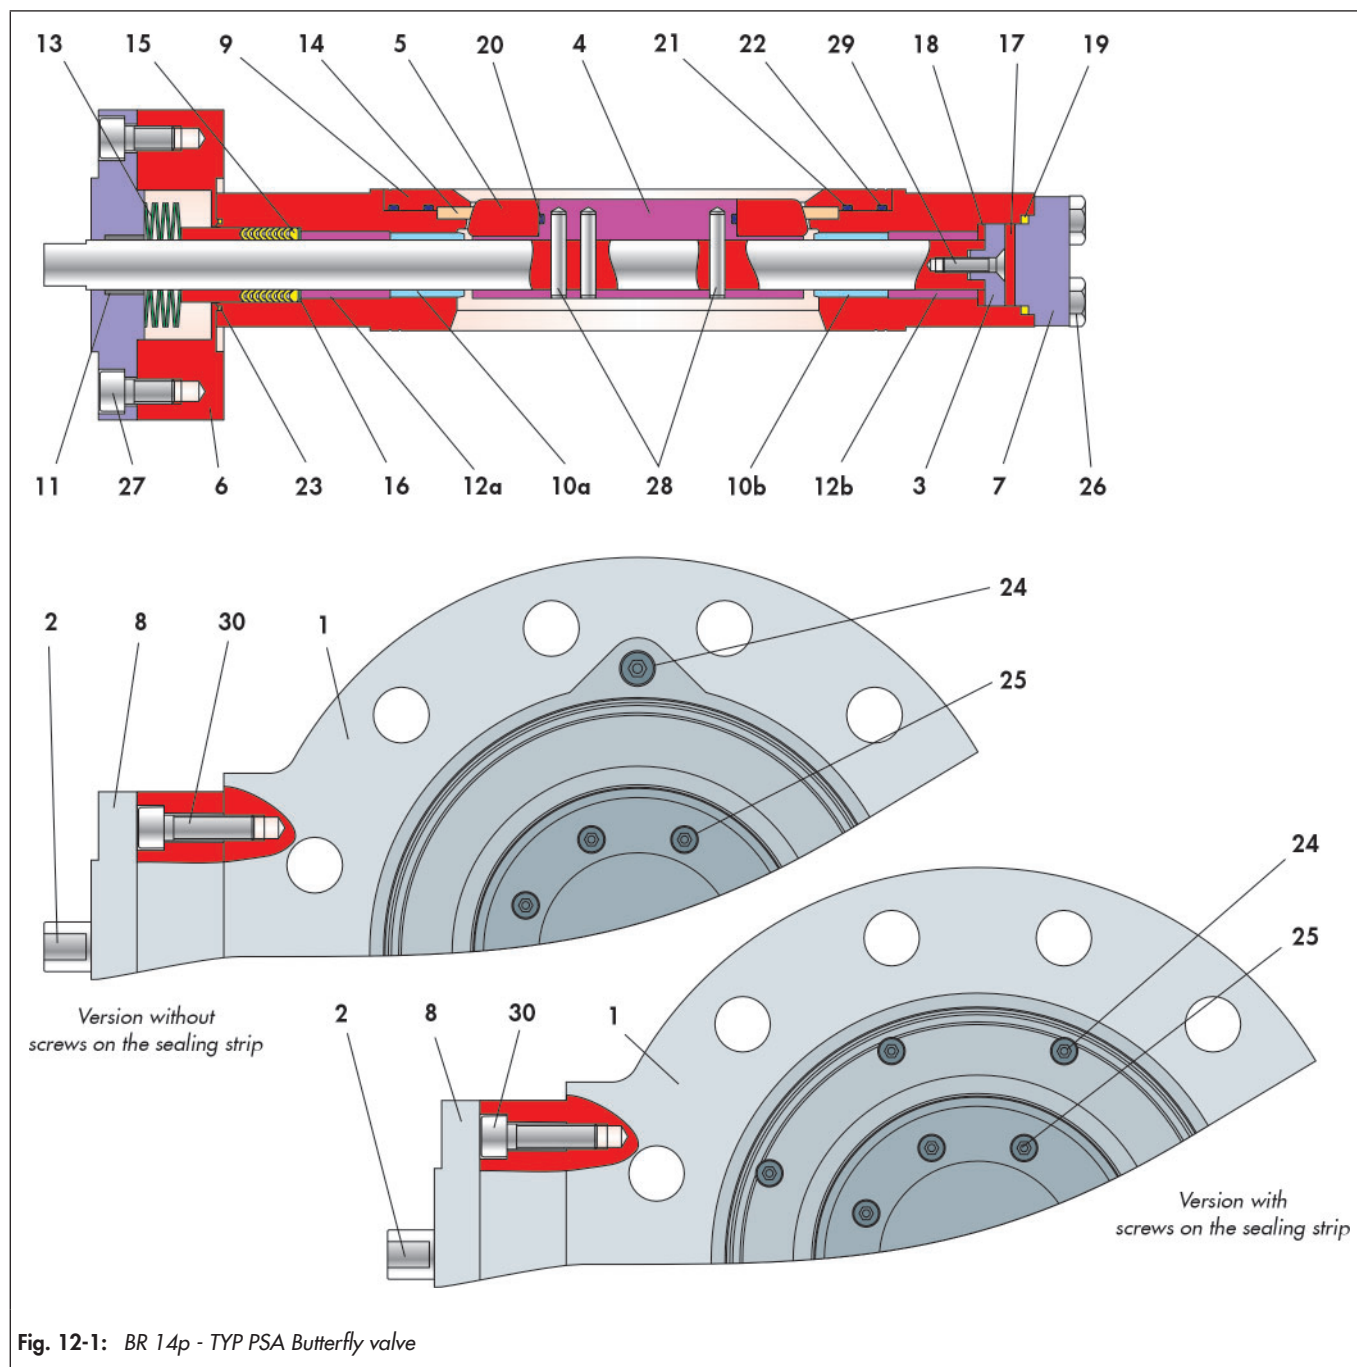

Fig. 12-1: BR 14p - TYP PSA Butterfly valve
- ⇒ Drill out the grooved pins (28) for disconnecting the connection between the valve disc (4) and valve shaft (2) and cut a suitable internal thread.
- ⇒ Pull the grooved pins (28) using a slide hammer, see Fig. 12-1.
- ⇒ Alternatively, drill out the grooved pins (28)